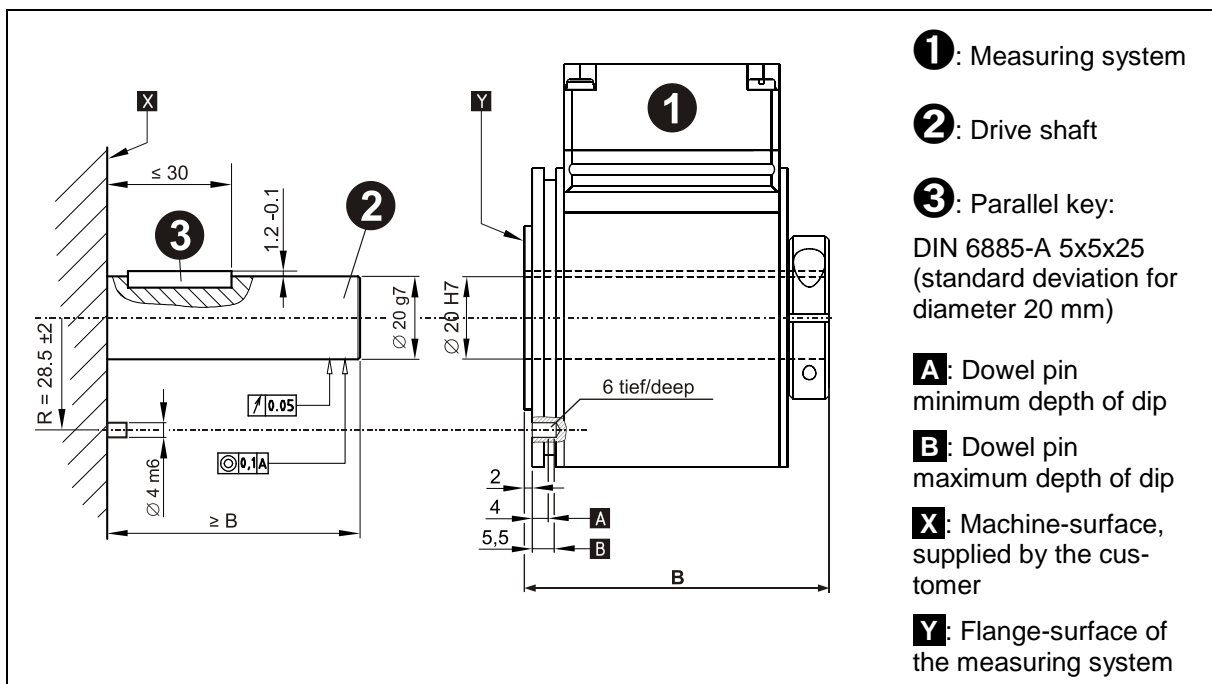

Figure 6: Shaft receptacle requirements
- The dowel pin must extend at least 4 mm into the groove insert (max. 5.5 mm). The distance from the measuring system flange **Y** to the customer-provided device plane **X** must be > 1.5 mm, see Figure 6.